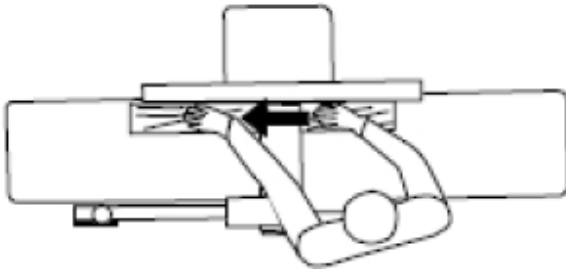

Fig. 13: Offset position of the operator to the infeed table
Step 2: After the cut, the new surface rests firmly on the outfeed table. The left hand is transferred to the output side (Figure 13) and presses on this part of the workpiece while maintaining flat contact with the fence. The right hand presses on the workpiece in the forward direction. Before the right hand reaches the cutting head, it should be moved toward the workpiece on the outfeed table.